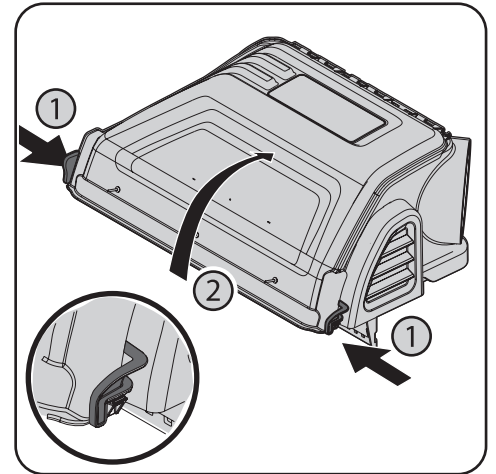

Figure 4-12
6. Open hood by pushing in on the rear side tabs with your hand (1), and lifting the cover with your other hand in the center rear of the bagger cover (2) as shown in Figure 4-12.